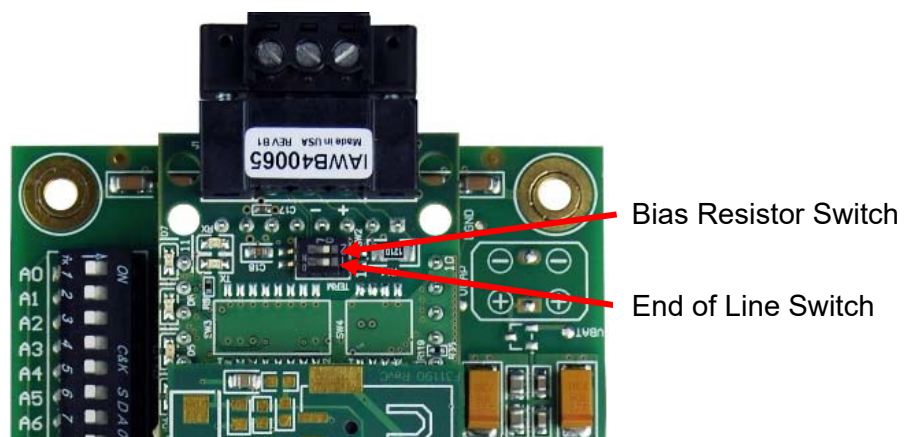

Figure 3-6: RS-485 BMS Network EOL Switch
- If the ProtoNode is the last device on the on the trunk, then the end of line (EOL) termination switch may need to be enabled. See Figure 3-6 for the orientation of switch positions referenced below.